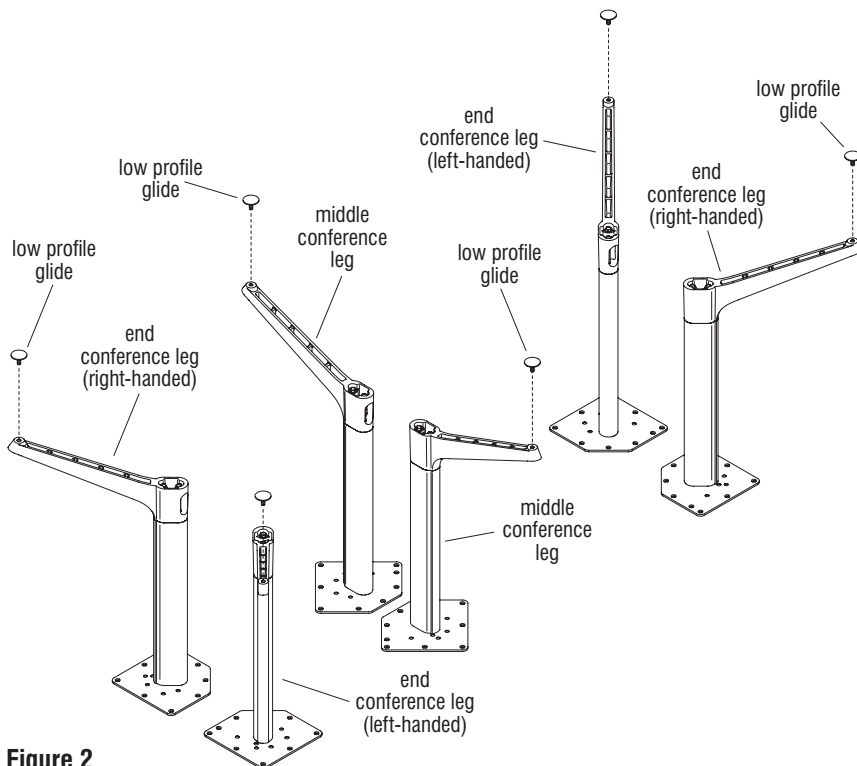

Figure 2
3. With the conference legs upside down, thread the stem of each glide into the threads at the end of each foot (Figure 2).